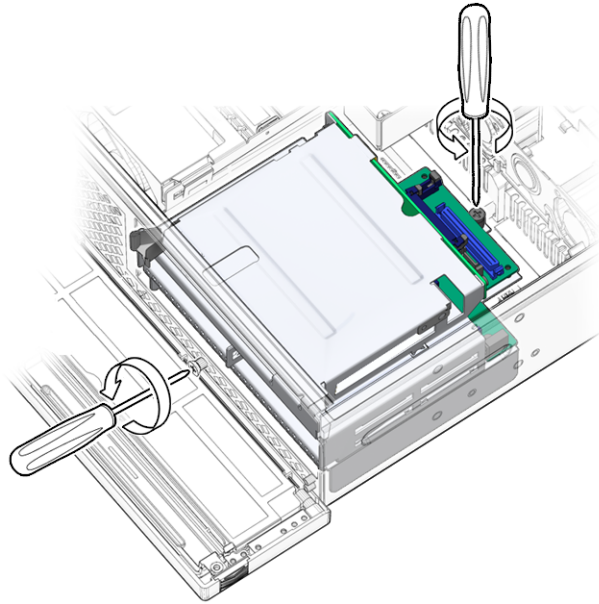

FIGURE 3-11 Loosening the Mass Storage Assembly Screws
5. Loosen both the screw at the back of the mass storage assembly and at the front of the chassis (FIGURE 3-11).